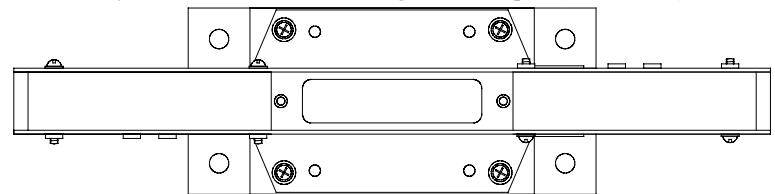

Figure C.6-9: Horn Blinder Properly Aligned on Model 10XR Receiver
- 8) Visually inspect that the horn blinder is aligned properly {Figure C.6-9} and tighten the mounting screws securely (be careful not to over-tighten the screws, as they are stainless steel screws threading into cast aluminum).